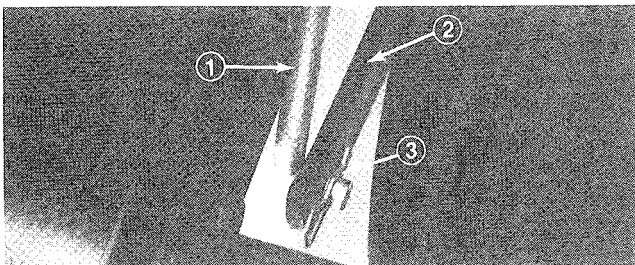

Figure 3
3. Secure lower end of height control rod to bracket on front wheel support with hair pin cotter (Fig. 3).